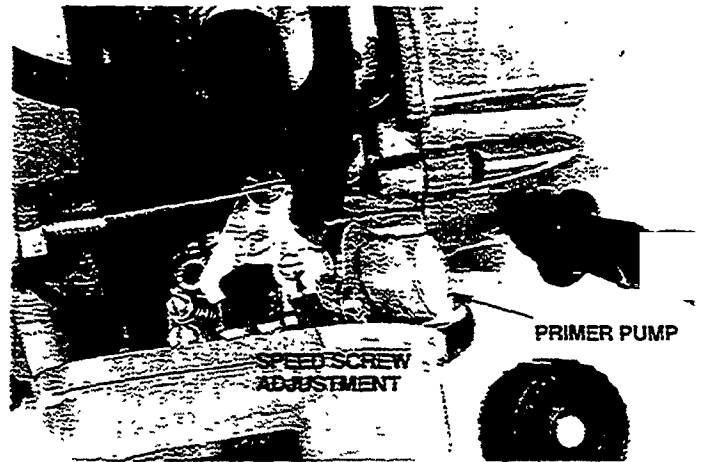

Figure 6
- Push the primer pump until fuel flows through the clear plastic return line (Fig. 6 and 7).
- However, if the idle speed seems too low or the engine dies at idle then the idle speed may be increased by turning the idle speed screw clockwise or decreased by turning counterclockwise (Fig. 6).